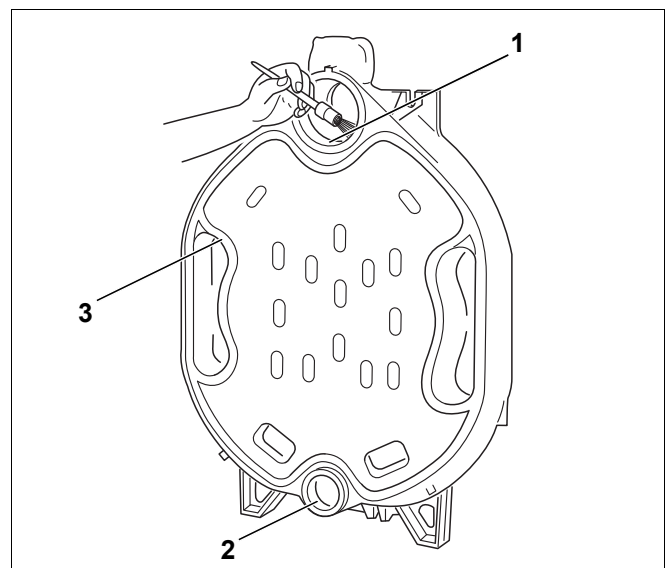

Fig. 8 Preparation of packing grooves and hubs
- Clean the packing groove (→ Fig. 8, [3]) where required using a wire brush and cloth.
- Clean the hub sealing faces (→ Fig. 8, [1] & [2]) with a cloth soaked in white spirit.